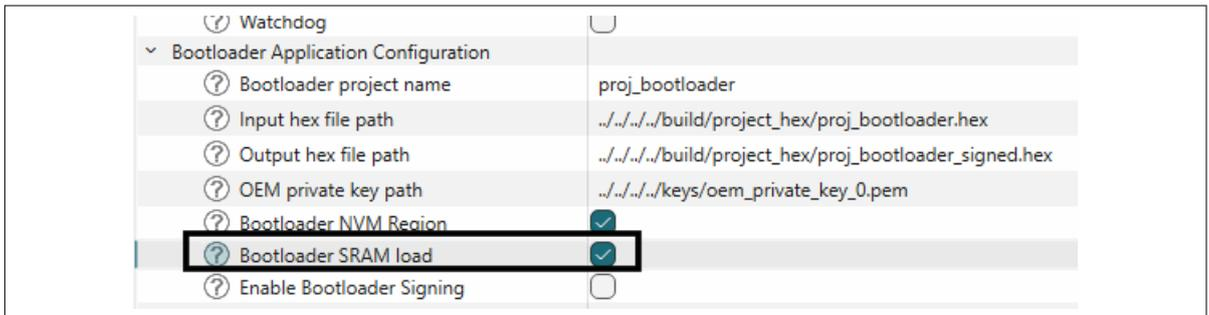

Figure 45 Enable bootloader in SRAM
2. Enable the SRAM loading of the EPB in the bootloader solution as shown in Figure 45